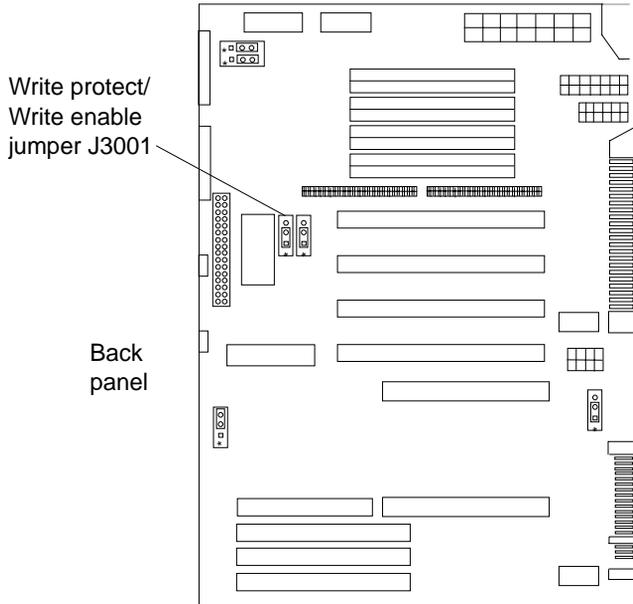

FIGURE 1-6 Sun Ultra 80/Enterprise 420R Flash PROM Jumper Location on Motherboard
- For a Sun Ultra 80 system, see FIGURE 1-6 on page 1-6.
- For a Sun Enterprise 420R system, see FIGURE 1-6 on page 1-6.